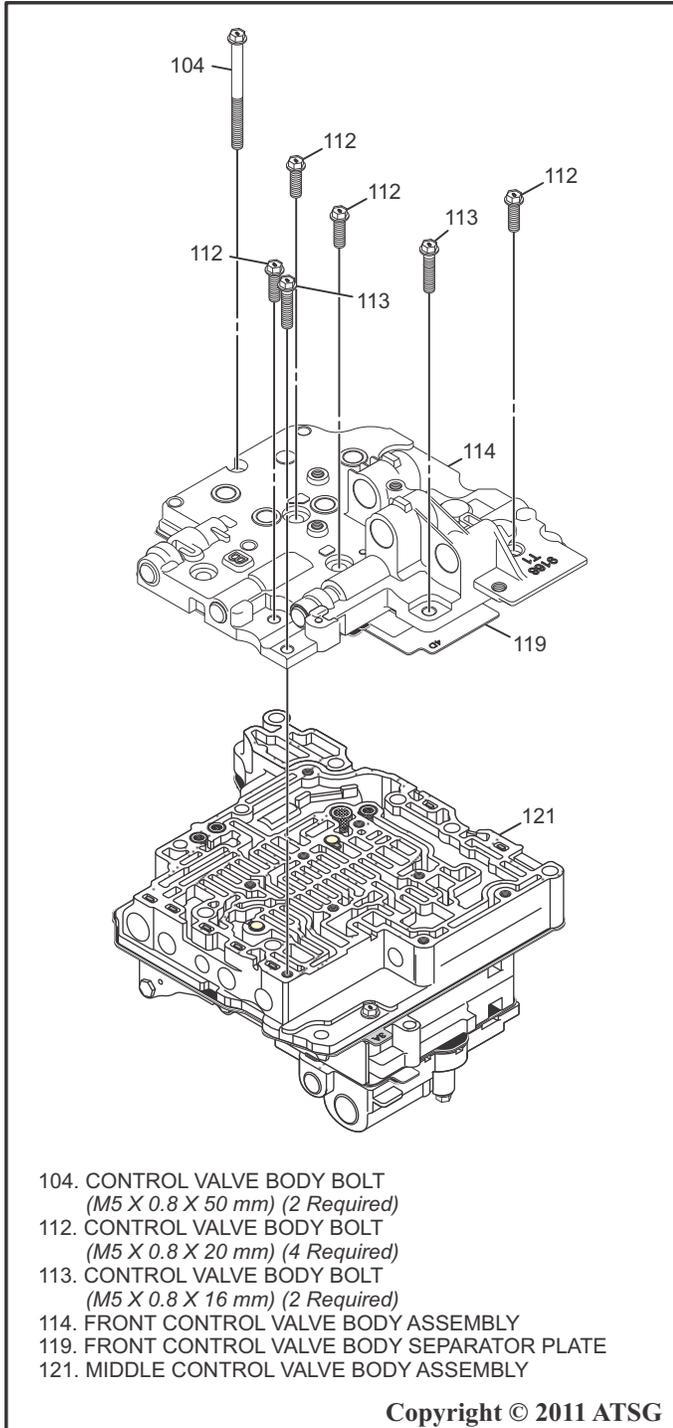

Figure 174
54. While holding the separator plate and gaskets to the front control valve body, flip the valve body over and align the bolt holes in the front control valve body with the bolt holes in the middle control valve body and set valve body down onto middle control valve body as shown in Figure 174.
55. Install and hand tighten the seven control valve body attaching bolts as shown in Figure 174.